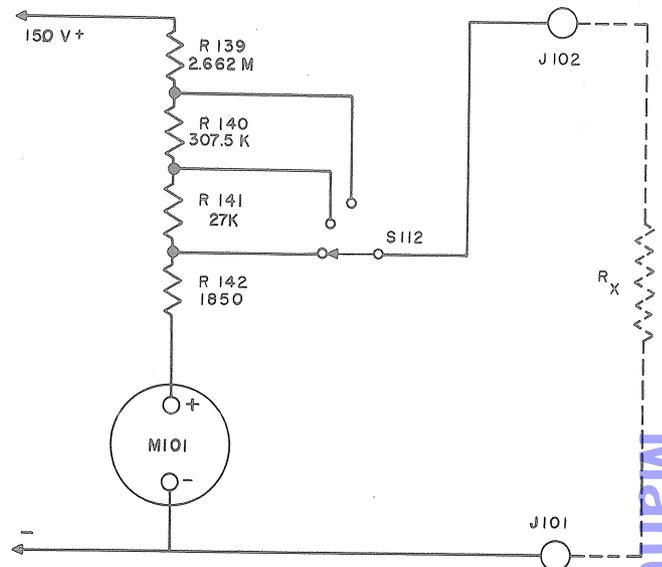

Figure 2-12.—Simplified High Range Ohmmeter Circuit.
- (2) The high ranges: 3000, 30,000 and 300,000 OHMS AT CENTER SCALE.
- (a) The circuit established when the FUNCTION selector is set for OHMS and the RANGE selector is in one of the three high resistance positions is shown in Figure 2-12.